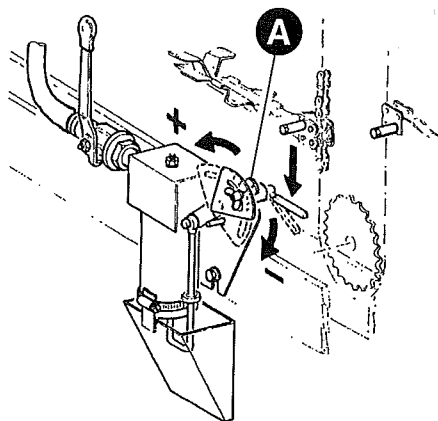

FIG. 26
-Grease the watering device (fig. 26.A)